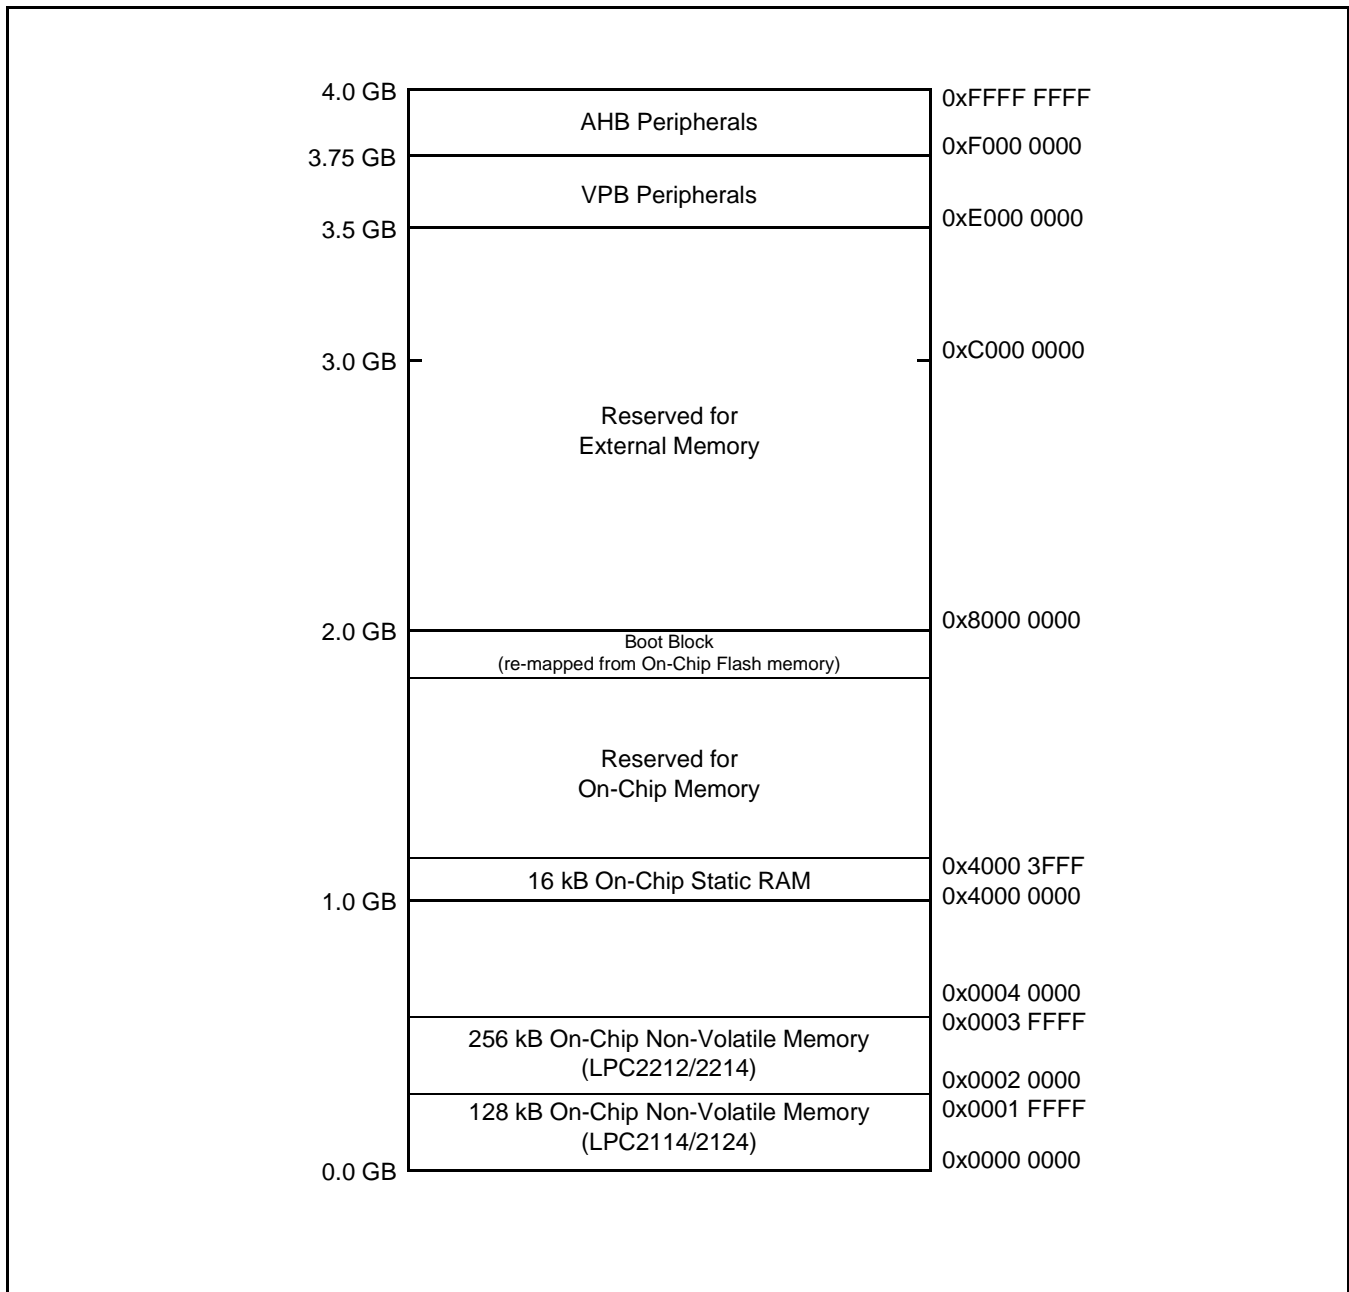
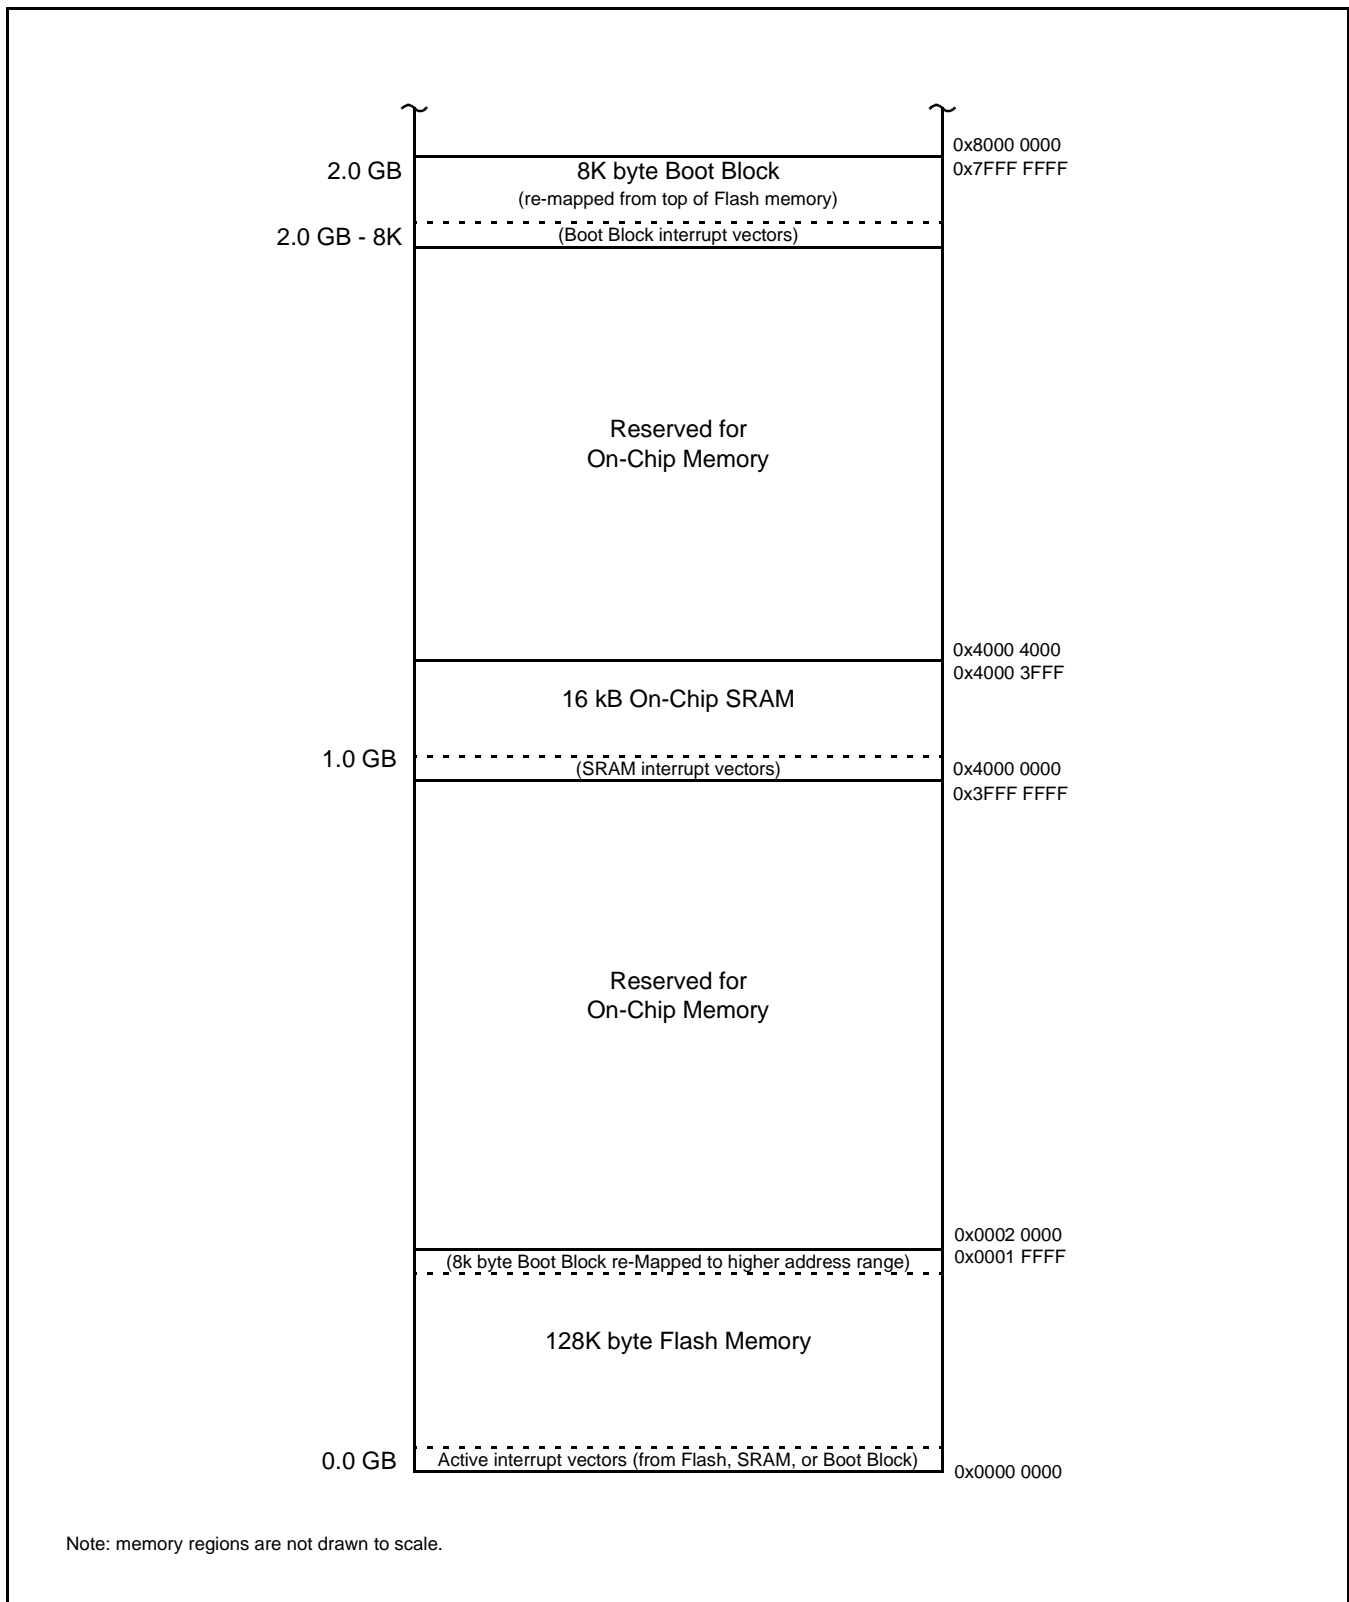

Figure 2: System Memory Map
Figure 6: Map of lower memory is showing re-mapped and re-mappable areas (128 kB Flash).
In order to allow for compatibility with future derivatives, the entire Boot Block is mapped to the top of the on-chip memory space. In this manner, the use of larger or smaller flash modules will not require changing the location of the Boot Block (which would require changing the Boot Loader code itself) or changing the mapping of the Boot Block interrupt vectors. Memory spaces other than the interrupt vectors remain in fixed locations. Figure 6 shows the on-chip memory mapping in the modes defined above.
- Address space between On-Chip Non-Volatile Memory and On-Chip SRAM, labelled "Reserved for On-Chip Memory" in Figure 2 and Figure 6. For 128 kB Flash device, this is memory address range from 0x0002 0000 to 0x3FFF FFFF, while for 256 kB Flash device this range is from 0x0004 0000 to 0x3FFF FFFF.
- Address space between On-Chip Static RAM and External Memory. Labelled "Reserved for On-Chip Memory" in Figure 2. This is an address range from 0x4000 3FFF to 0x7FFF DFFF.
This module is available in LPC2212 and LPC2214 only. Since this 144 pin package pins out address lines A[23:0], the decoding among the four banks uses address bits A[25:24]. The native location of the four banks is at the start of the External Memory area identified in Figure 2 on page 33, but Bank 0 can be used for initial booting under control of the state of the BOOT[1:0] pins.